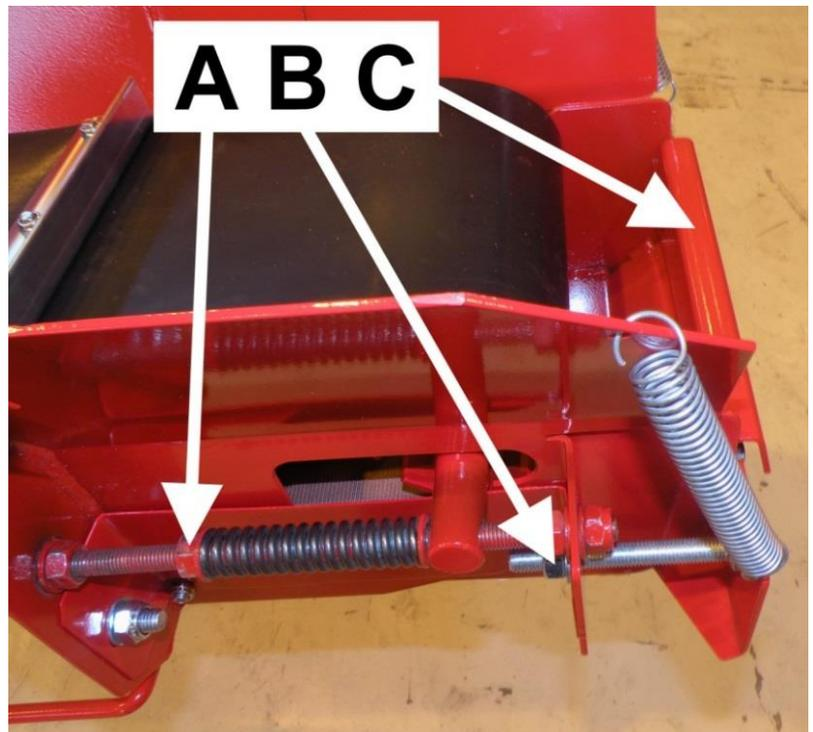

Figure 20
The blade can be driven to the lowest position in one go by raising the blade and clearing the space under the blade of firewood (Figure 20, right). The machine guard must be opened or the machine must be disconnected from its power source for the duration of cleaning or blade replacement so that the splitting and sawing functions are inoperable.
2. Move the splitting blade to the lowest position using lever F (Figure 11), as shown in Figure 20 on the left.
The tightness and alignment of the out-feed conveyor's belt can be adjusted using nuts A in Figure 20 (2 pcs). Loosen adjustment nut A on the side to which you wish the belt to run. Do not tighten the belt excessively to prevent the spring being compressed.
The following things significantly affect the operation of the debris removal device: the angle of the out-feed conveyor, the speed of the belt and the distance of separation plate C (Figure 20) from the upper roller of the conveyor. In other words, the debris separation result is better the steeper the angle (however, no more than 40 degrees), the lower the speed and the longer the distance between separation plate C and the upper roller. The distance of separation plate C is optimised at the factory in conjunction with the testing of the machine. However, the adjustment can be changed, if necessary.